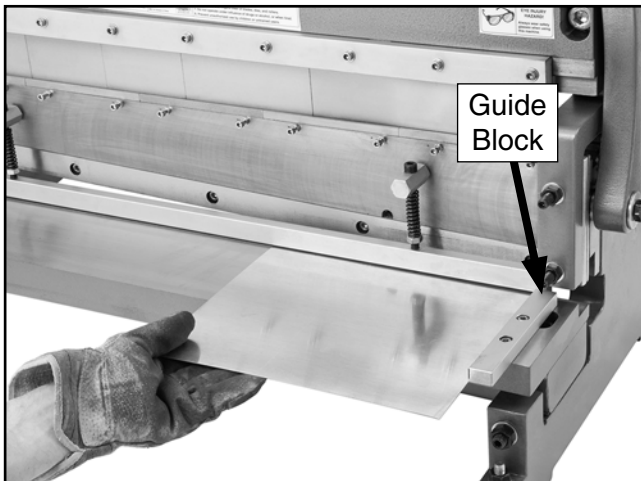

Figure 37. Positioning workpiece for shearing cut.
3. Position workpiece against guide block on right side of table, and align cut mark with upper shear blade, as shown in **Figure 37**.